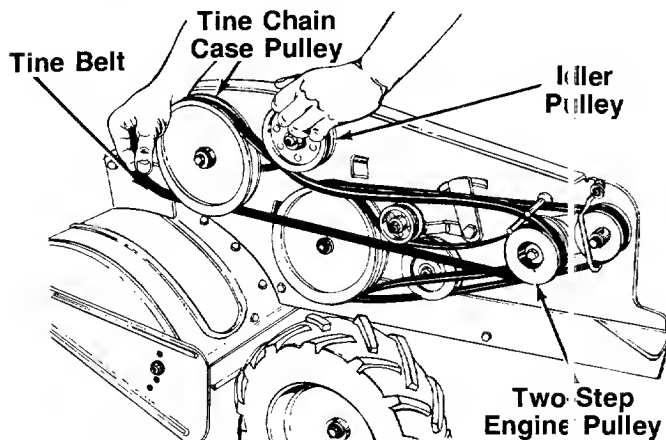

FIGURE 25.
2. To remove the tine belt, lift up on the idler pulley, and slip belt off tine chain case pulley as shown in figure 25. Remove belt from the two-step engine pulley.